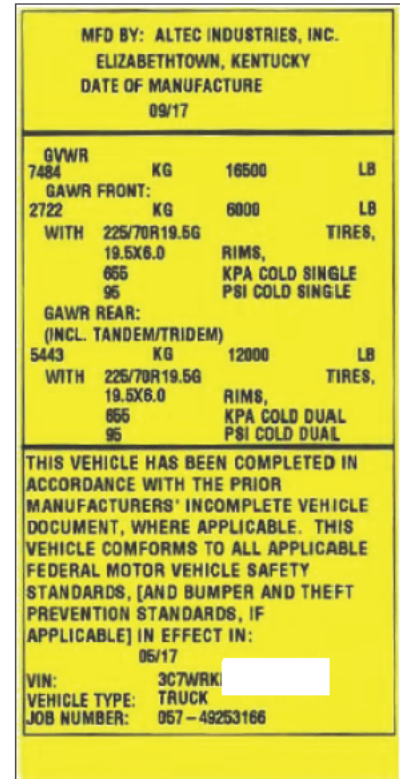

Figure 1 – Example of Final Stage Certification Label
3. Find the Final Stage Certification Label (refer to Figure 1) located on the left side of the chassis near the driver’s seat, usually in one of the following positions.